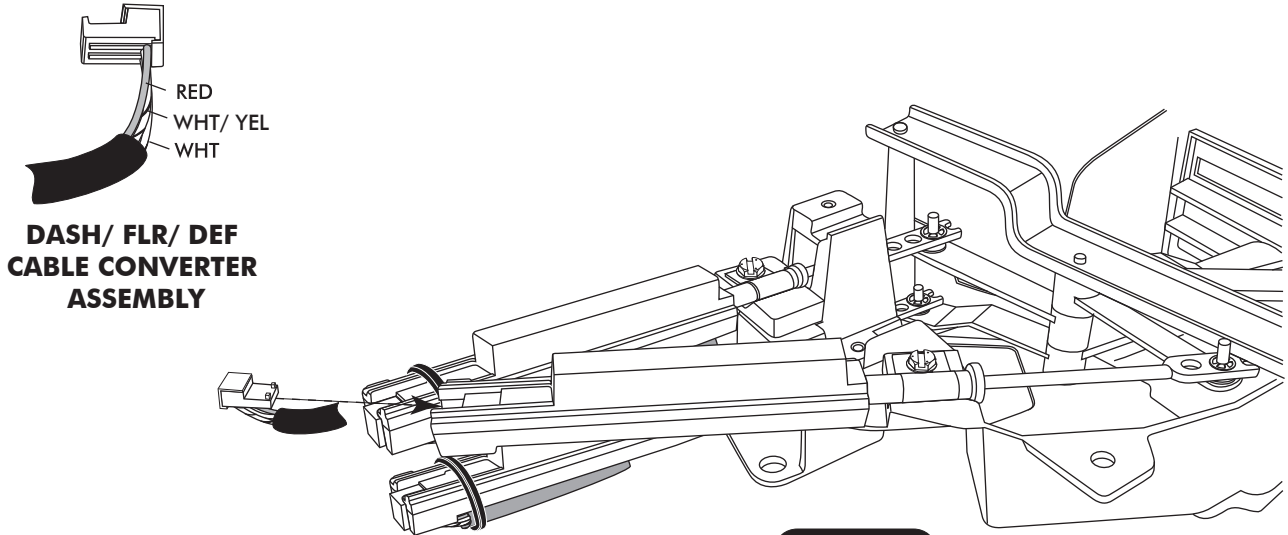

FIGURE 11
- LOCATE THE CONTROL PANEL WIRE HARNESS AND PLUG THE CORRESPONDING WIRES INTO THE CORRECT CABLE CONVERTER ASSEMBLY AS SHOWN IN FIGURE 11 BELOW.